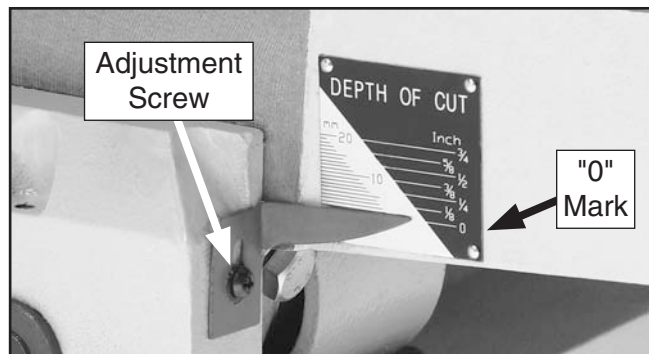

Figure 59. Depth scale adjusted to "0" position.
3. Using a screwdriver, adjust the scale pointer adjustment screw to position the pointer at the "0" mark (**Figure 59**).